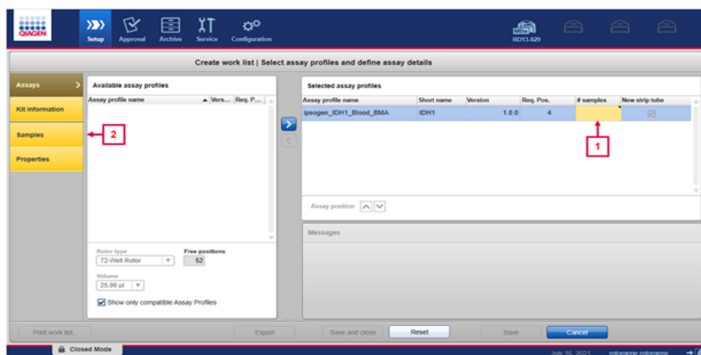

Figure 10. “Create work list” window on the “Assays” tab. Box 1 indicates where to add number of samples. **Box 2** indicates Samples tab.
9. In the “Selected assay profiles” window (Figure 10, indicated by box 1), enter the number of samples to be tested (excluding controls). Next, click the **Samples** tab to enter “sample information” (Figure 10, indicated by box 2).